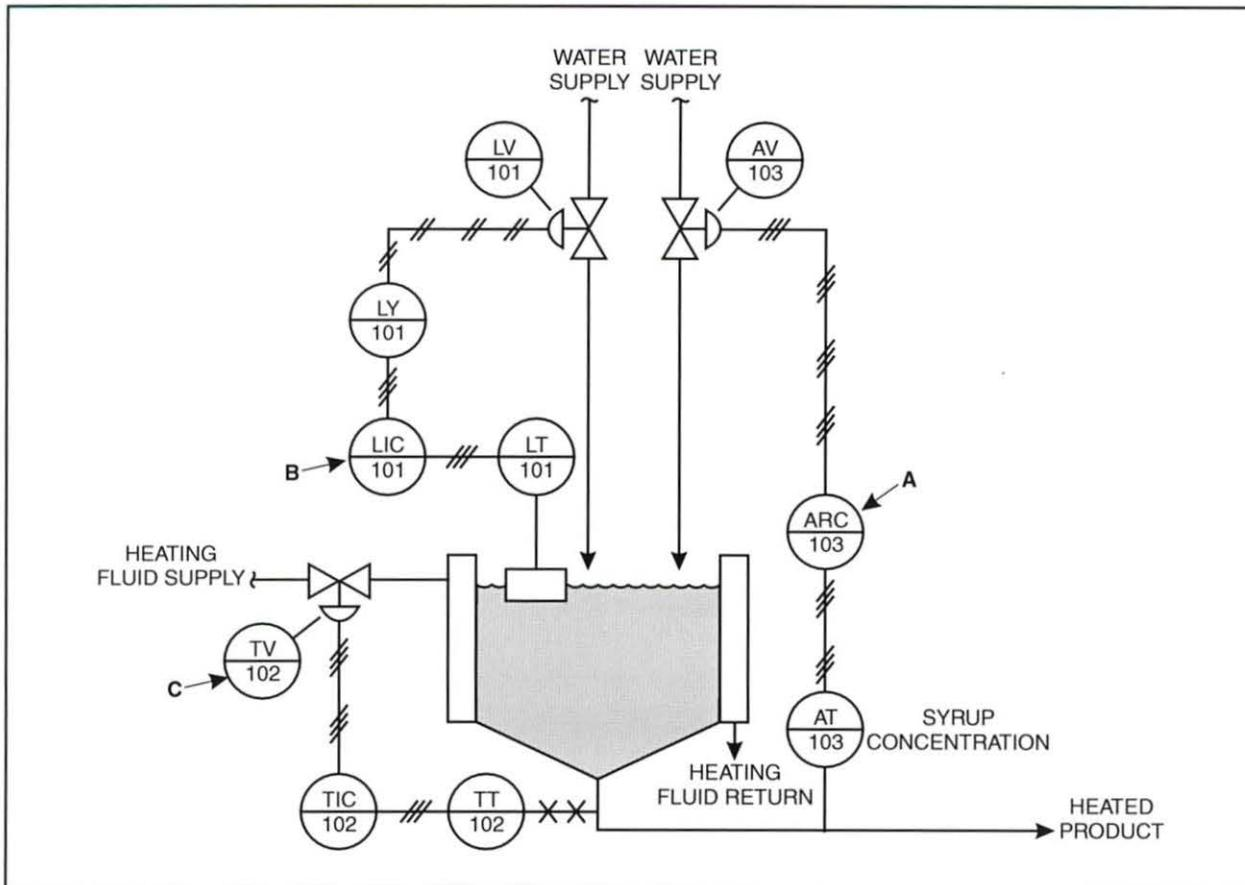

Figure 71. Heating and Mixing System
- 10. Determine the measured variable and function indicated by each tag identified by figure 71.